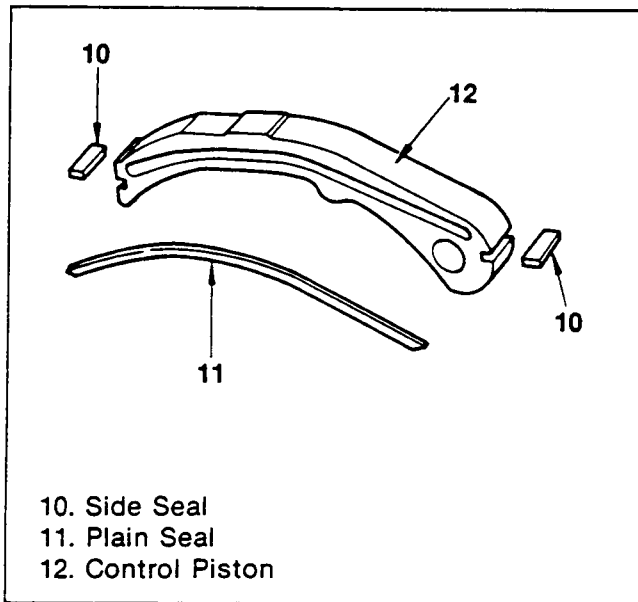

Figure 65. Oil Pump Inspection (1)
Inspect (Figures 65, 66, 67 and 68)
2. Inspect the control piston for damage and unusual wear (figure 65).